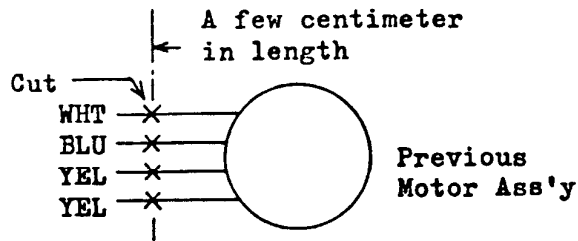
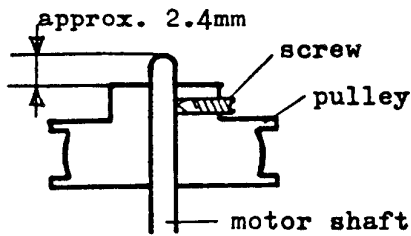
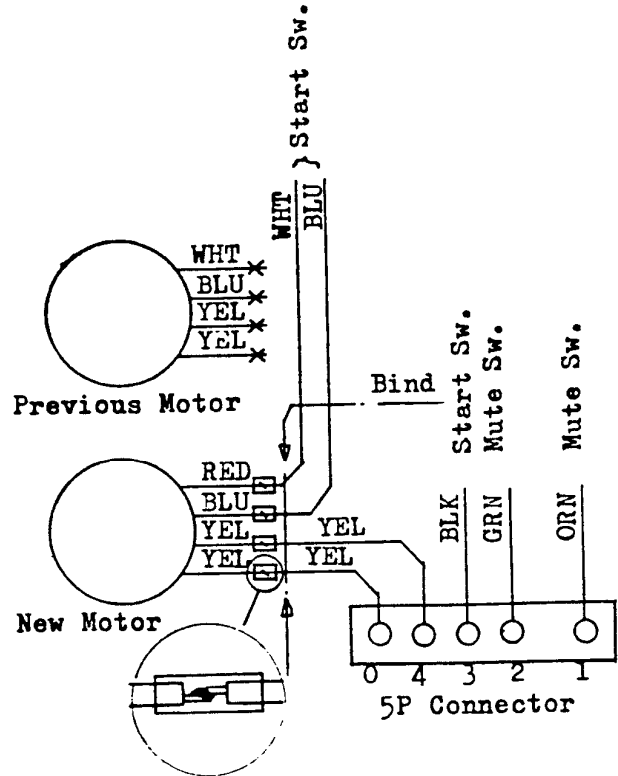

Fig. 1
Fig. 3
Fig. 2
- (1) Remove the Motor Ass'y (NE) (Motor, Pulley and Bracket) and replace with MHX Motor Ass'y (Motor, Pulley and Bracket).
- (2) Cut the previous type motor-signal-wires (BLU, WHT, YEL, YEL) referring to Fig. 1. Then connect to the new motor referring to Fig. 2.
- (3) Cover with tube for isolation at the connecting point of two wires.
- (4) After replacement of motor ass'y, adjust the pulley position of the new motor as shown in Fig. 3 then check the position of driving belt to insure the following: